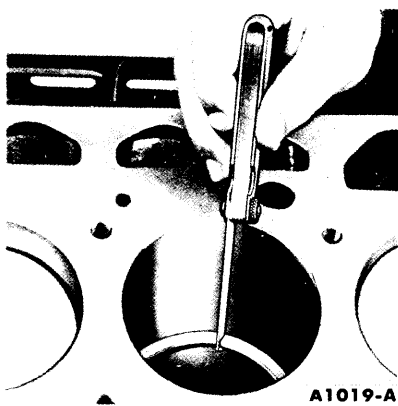

FIG. 11—Typical Piston Ring Gap
5. Measure the gap between the ends of the ring with a feeler gauge (Fig. 11). If the ring gap is less or greater than the specified limits, try another ring set.